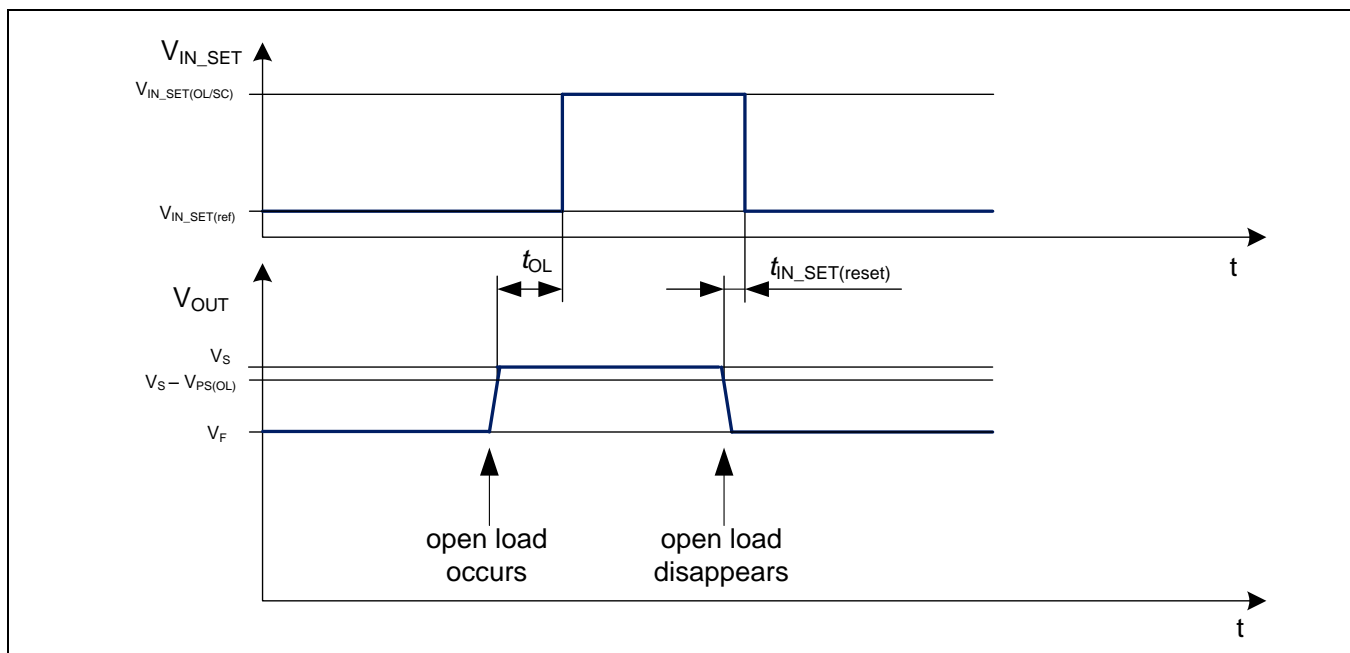
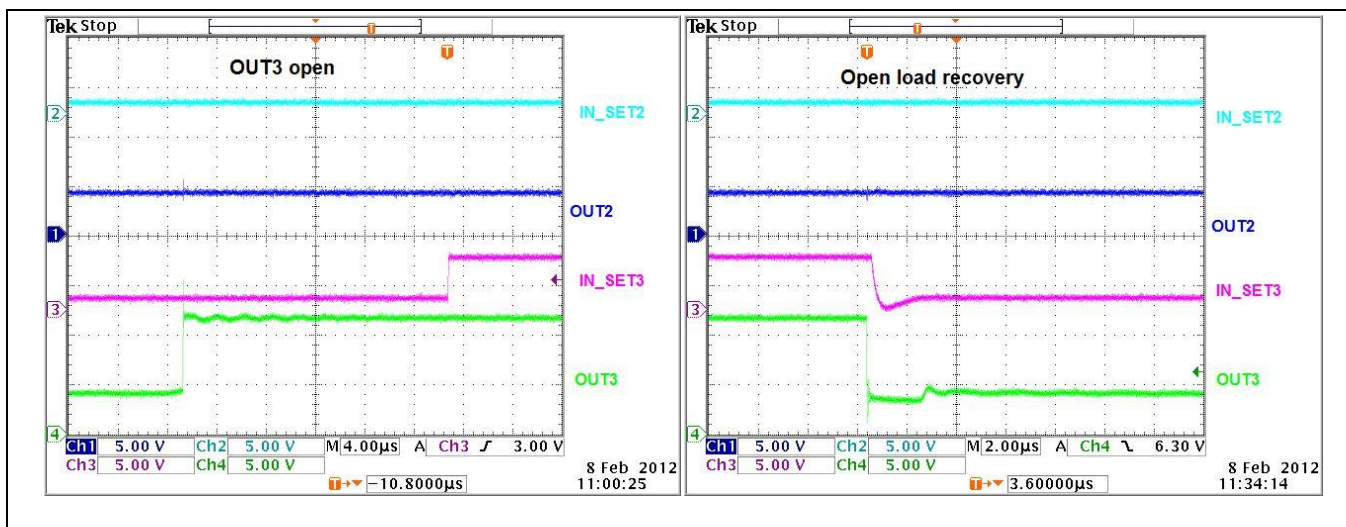

Figure 39 Open Load Detection and recovery timing (IN_SET pin diagnosis)
Figure 41 Scope plots showing t_{OL} delay and $t_{IN_SET(RESET)}$ for open load (IN_SET diagnosis, TLD2326EL)
See Figures 39 and 40 for Open Load detection and recovery timing using the IN_SET or ST pins. Figure 41 shows example scope shots for the open load diagnosis using the IN_SET pin.
- The diagnostic condition for OL or SC to ground is not latched, the output will function normally again after the fault is removed. The IN_SET pin will transition to an unfaulted state after a delay of $t_{IN_SET(reset)}$ as shown in Figure 39.